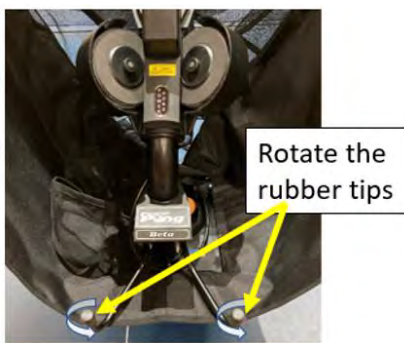

Figure 2-1
1. Turn the **adjustable rubber tips** on the ends of the Support Legs as needed so that the Ball Feed Tube is straight up, not tilting forward/backward. (Photo 2-18, Figures 2-1, 2-2)